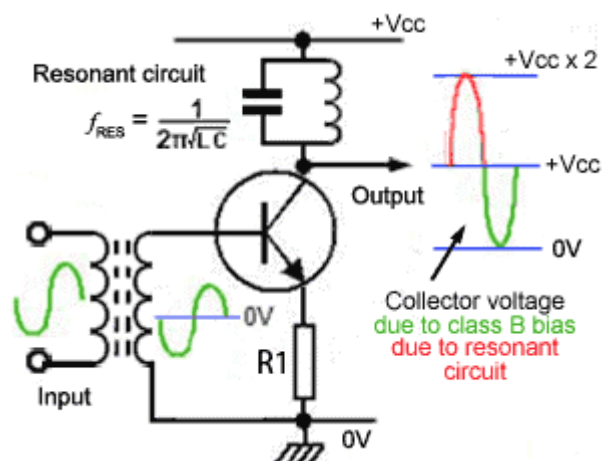

Fig 5.3.2 Class B Radio Frequency (RF) Power Amplifier
The circuit in Fig 5.3.2 shows how class B bias can be used in a radio frequency (RF) output stage. Although the circuit would produce severe distortion as only half of the signal wave form produces a current in the load, because the load in this case is a tuned circuit resonating at the signal frequency, the resonating effect of the tuned circuit ‘fills in’ the missing half cycles. This method is only suitable at RF, as at lower frequencies the inductors and capacitors needed for the resonant circuit would be too large and costly for most applications. Because of the superior efficiency of class B it is a popular choice for power amplifiers, but to overcome the severe distortion caused by class B, audio amplifiers use a push-pull circuit.